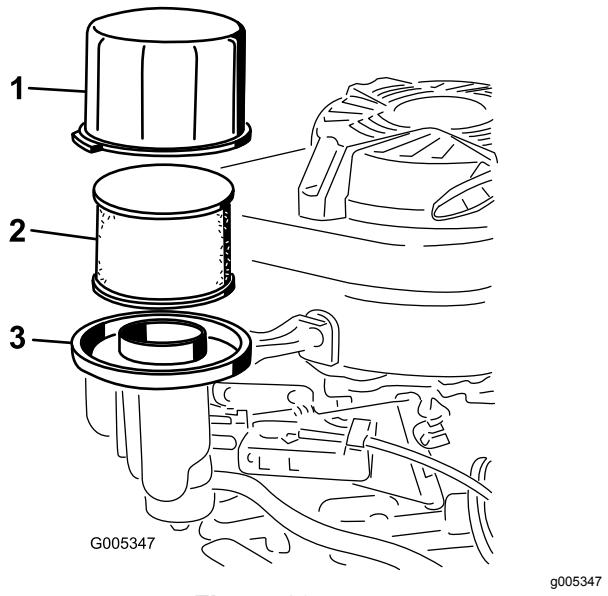

Figure 23
3. Remove the cover and clean it thoroughly (Figure 23).
4. Remove and the foam pre-cleaner and the paper-air filter from the air-cleaner base (Figure 23)